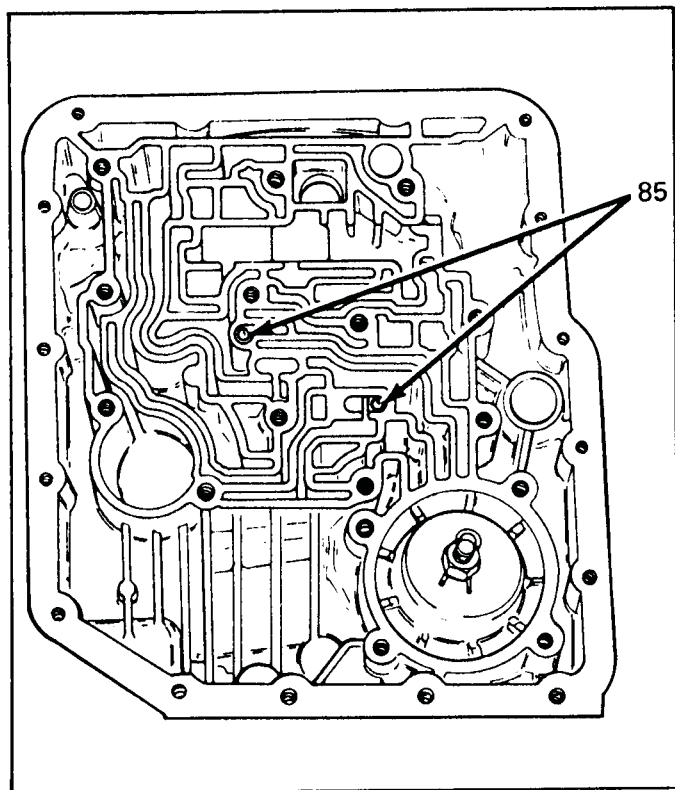

Figure 126
13. Install two checkballs in transmission case passages as shown in Figure 126.